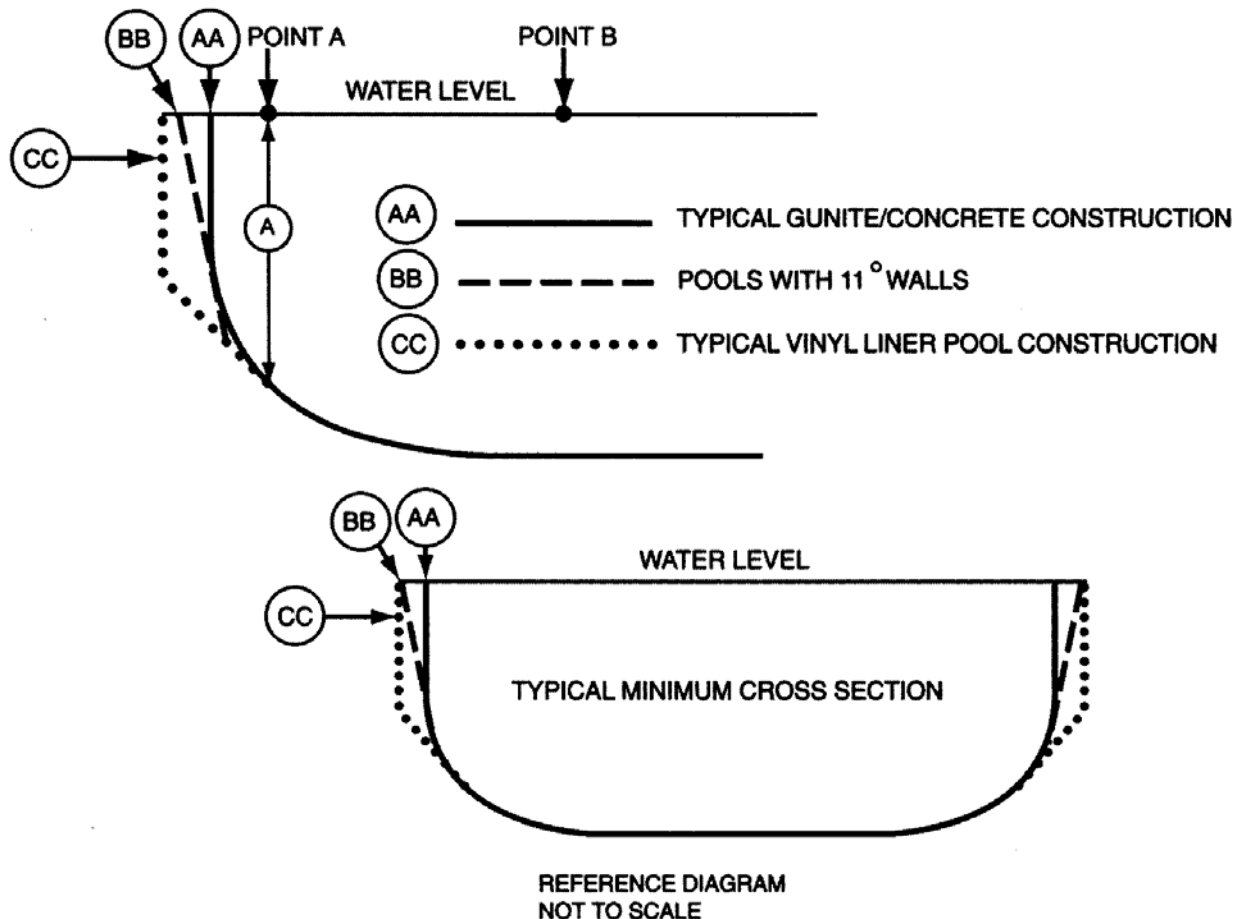

Figure 2- Typical pool design configurations
CAUTION: Before pouring concrete around jig, check the bolt pattern of jig to Fig. 2. It is possible that they may have become misaligned through shipping and handling.
6. Place springs over stand and secure according to Fig. 2. The spring cannot be secured to the stand after the stand has been assembled to the jig. Tighten MOUNTING hex nuts. Use TIGHTENING SCHEDULE on pg. 2 when tightening all MOUNTING and ANCHOR hex nuts.
7. Place stand over jig bolts and secure according to Fig. 2. Tighten ANCHOR hex nuts.
8. With the 6' or 8' SALT POOL JUMP SYSTEM STAND properly secured, install diving board to spring assembly according to Fig. 2 and tighten MOUNTING hex nuts.
5.3.2 As shown in figure 2, at the depths of (a) and (b), the walls are permitted to join the floor.
5.9.4 Typical pool design configurations. Vinyl liner, shotcrete, fiberglass and concrete constructions shall conform to, but are not limited to, the typical pool configurations shown in figure 2.